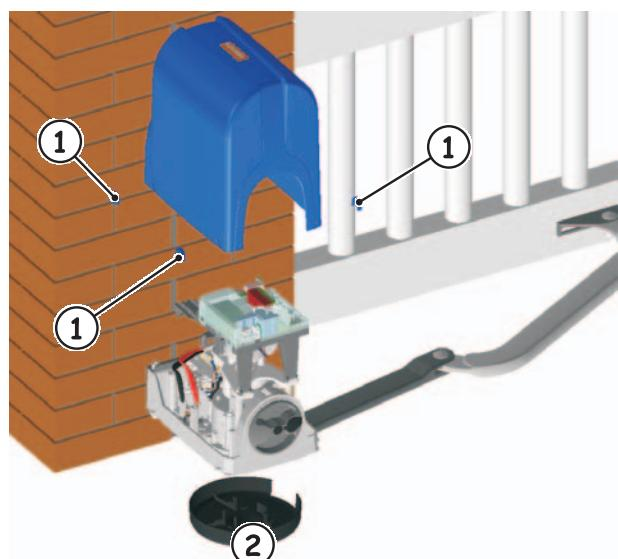

Fig. 17
- Re-locate the upper covering housing, tighten the securing screws and position the four covering plugs fig.17 ref. ①.
- Position the lower housing as shown in fig.17 ref. ②.